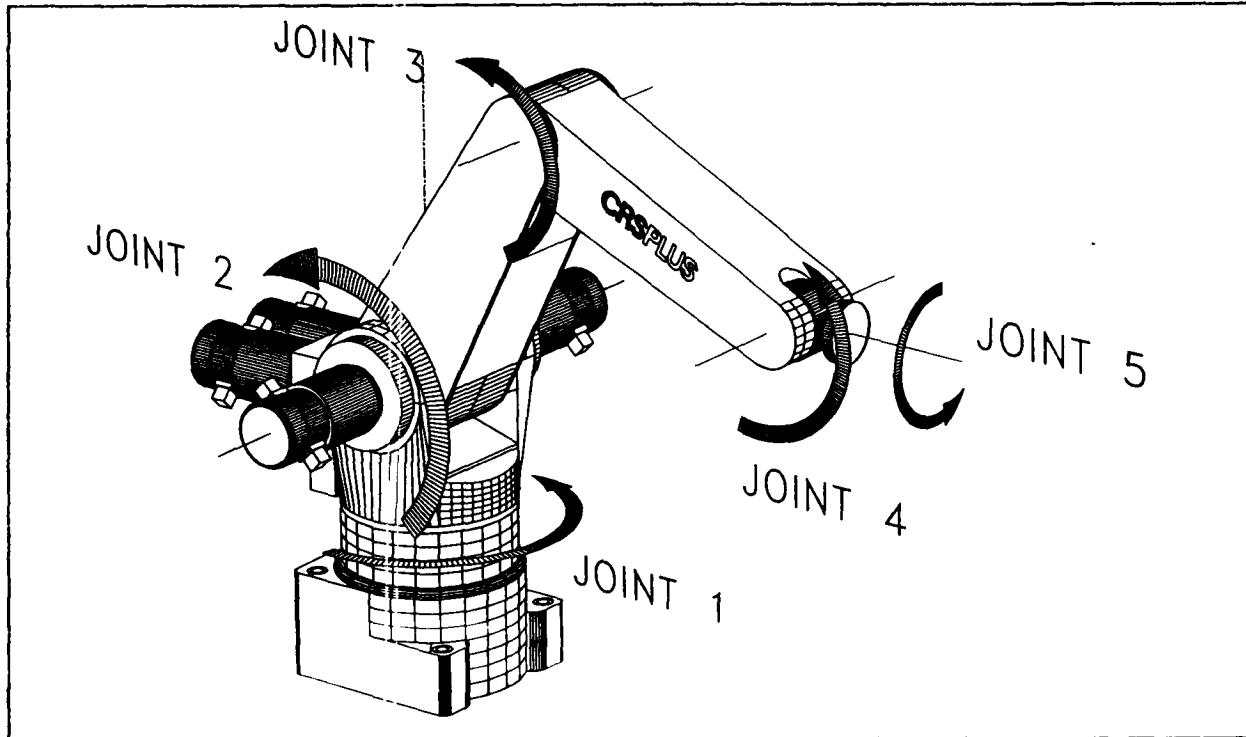

FIGURE 6-1 Robot Joints
The A100/200 Series robot system has a five axis (joint) arm. The five joints as shown in figure 6-1 are the waist (1), shoulder (2), elbow (3), wrist bend (4), and wrist roll (5).